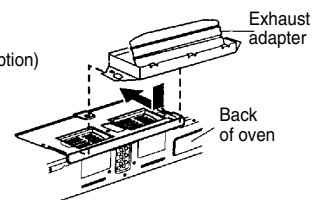

Figure 23
8. Attach the exhaust adapter to the blower plate by sliding it into the Guide. See Figure 23.